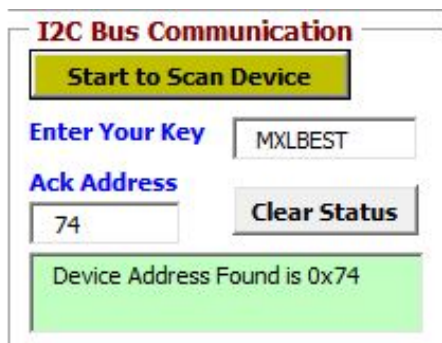

Figure 9: Start Scan
- d. Establish the connection to XR77103 EVK. Turn on the power applied to V_{IN} and scan for the device. Enter your key "MXLBEST" and enter Baud of 9600. You may need to "Scan Device" multiple times before the link is established (you will see either address 0x74h or 0x75h), see Figure 9.